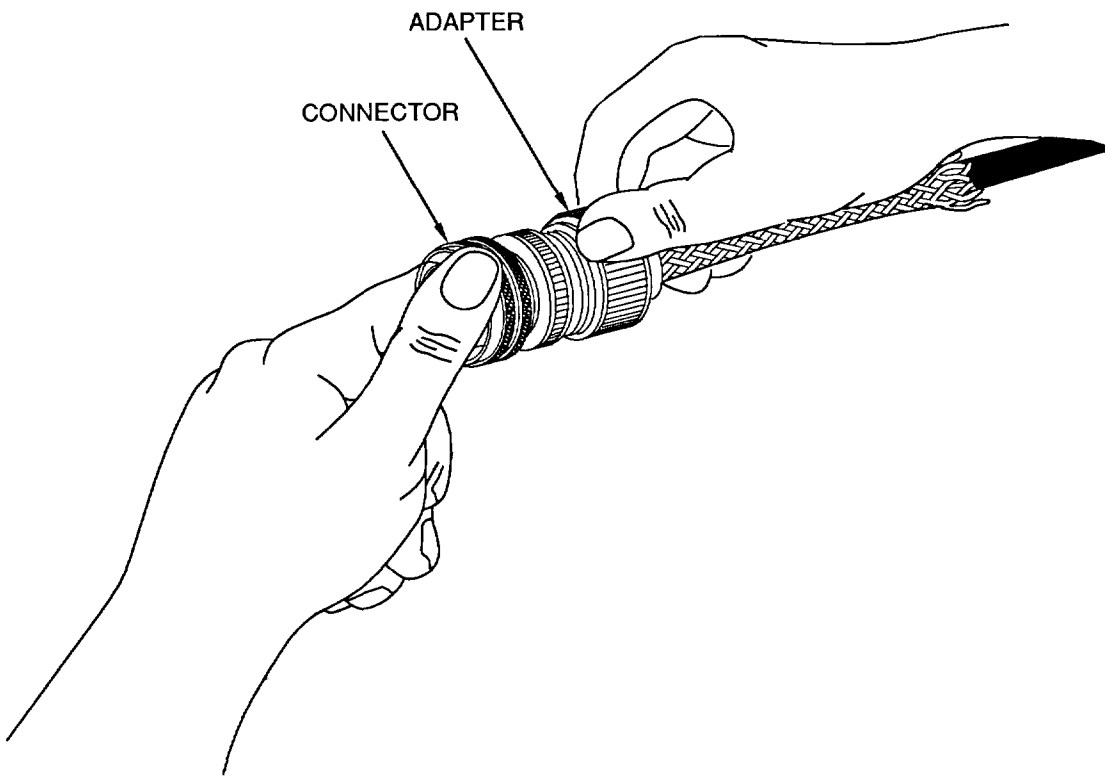

Figure 18. Adapter to Connector Installation
g. Attach adapter to connector so harness does not twist (Figure 18)